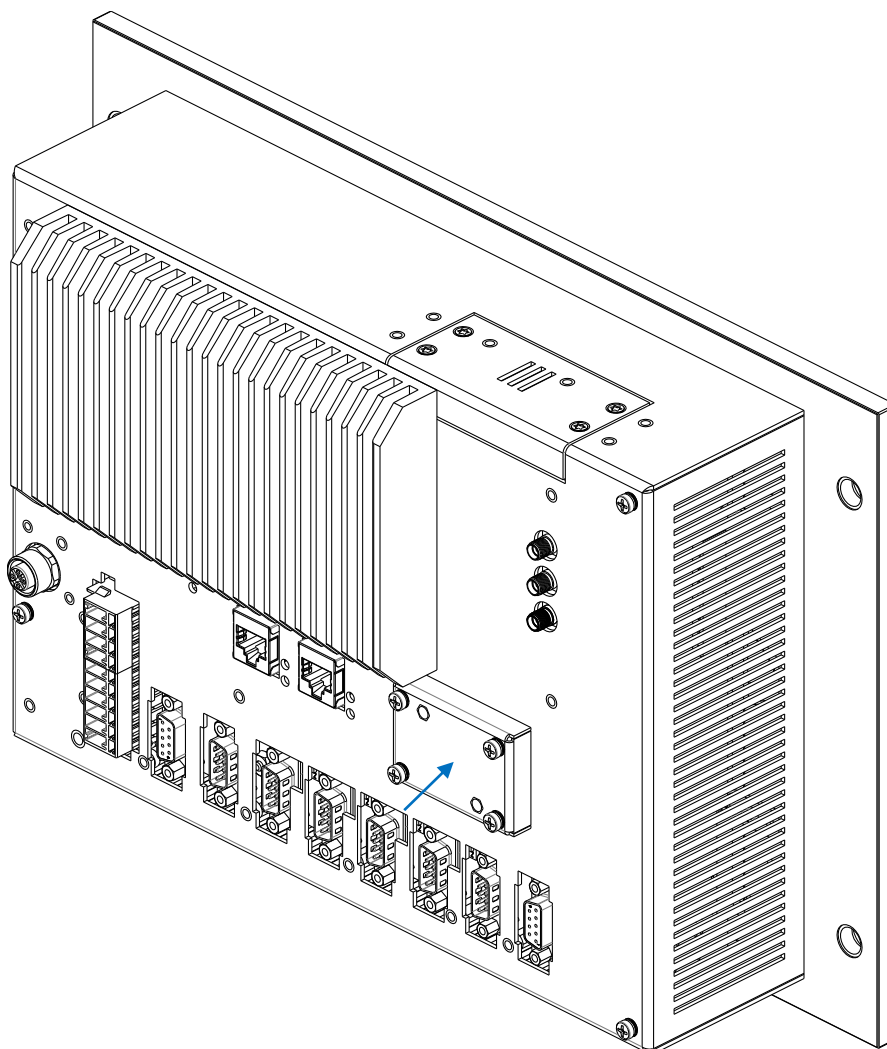

Fig. 6 - Possible location of backup battery holder on back cover
- If is your unit equipped by backup battery holder for easy replacement as shown in Fig. 6 follow the chapter 3.3. – Procedure for replacement – holder for easy replacement.
- If isn't your unit equipped by backup battery holder for easy replacement as shown in Fig. 6 follow the chapter 3.4. – Procedure for replacement – built-in module.